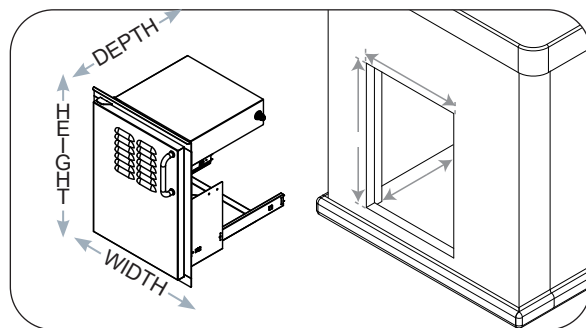

Fig. 1-1 Orientation
2. Create the appropriate cutout in your island enclosure as specified for your model number. See Table 1-1 and Fig. 1-1.
3. Position the door in the opening (see Fig. 1-1).